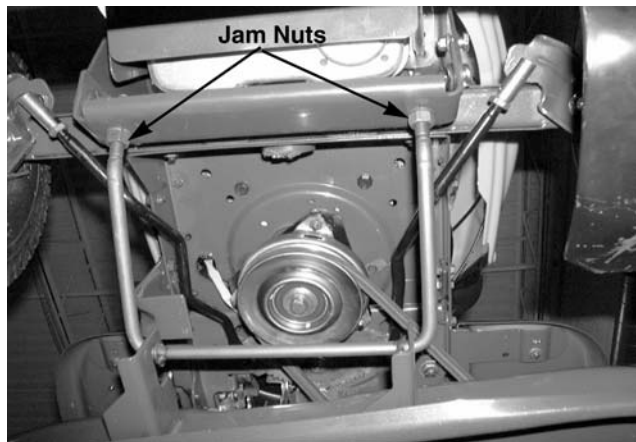

Figure 9-3.
5. Loosen both two jam nuts on the rear side of the deck stabilizer bracket using a 3/4" wrench. See Figure 9-3.